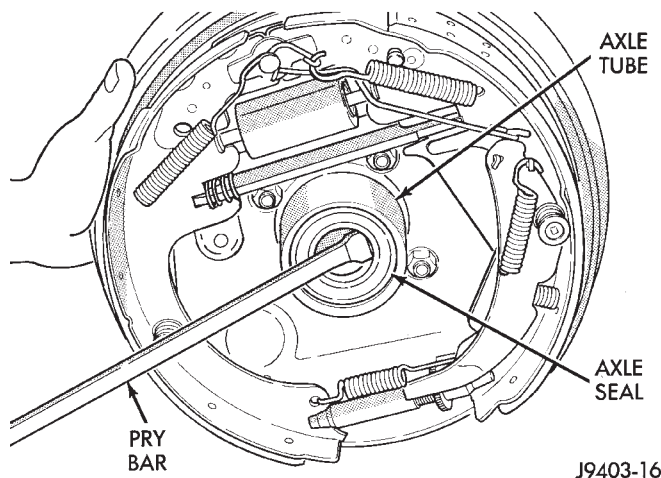

Fig. 11 Axle Seal Removal
(1) Remove axle shaft.
(2) Remove axle shaft seal from the end of the axle tube with a small pry bar (Fig. 11).